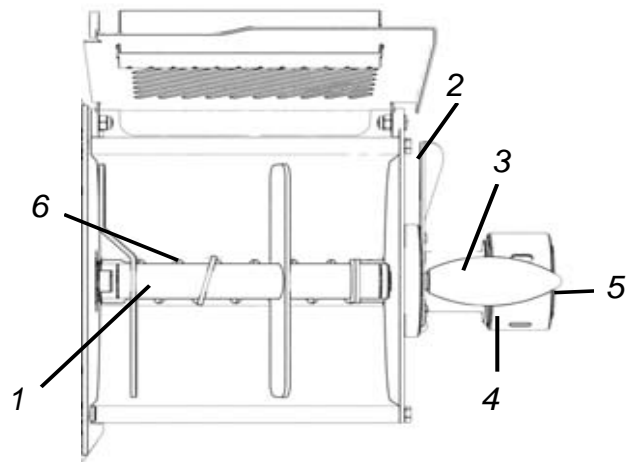

Fig. 7.2.1
1. Put the blade "1" in the position shown in Fig. 7.2.1.
If the blade is not locked in position as shown in fig. 7.2.1 it **cannot** be removed.
If the blade is not lying in the position shown in Fig. 7.2.1, it **cannot** be removed.